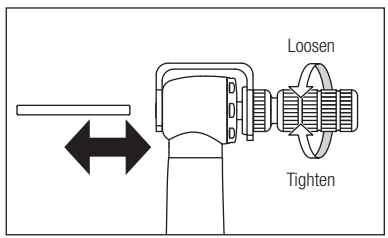

Fig. 7
- 1) Pull back the knurled knob then mount the Chuck Wrench onto the handpiece head as shown in the Fig. 7.